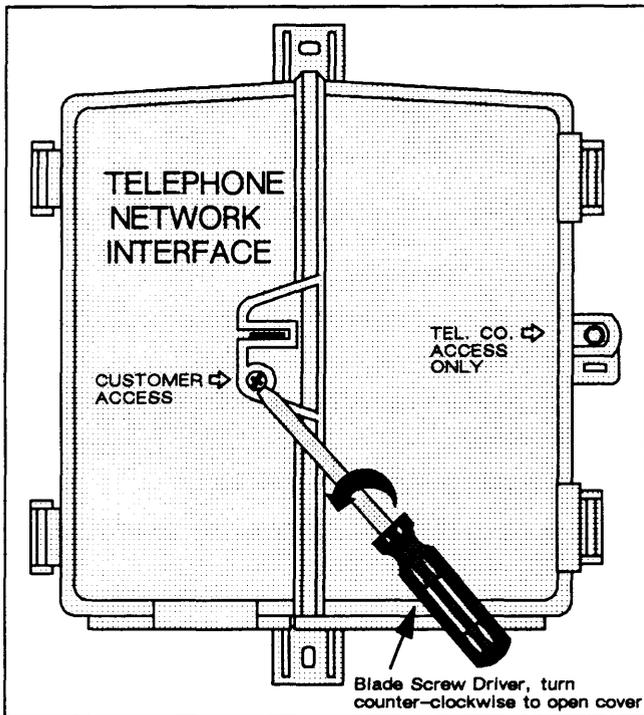
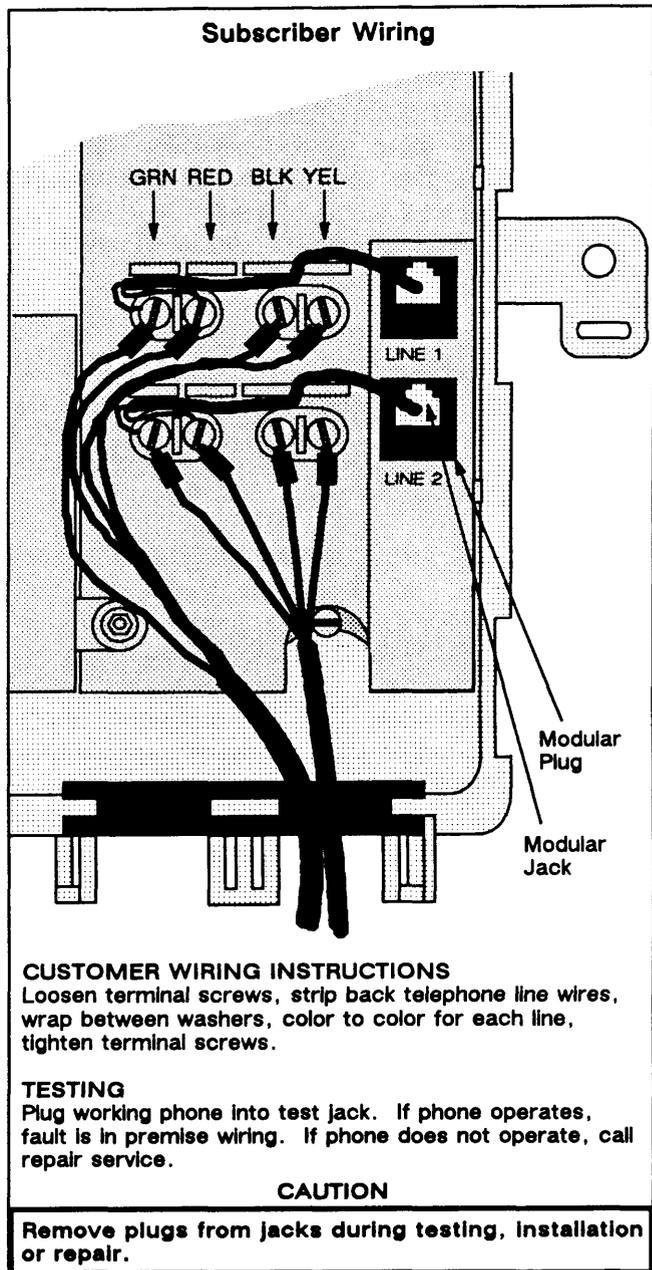

Figure 5 - Opening Customer Access Cover
Figure 6 - Customer Wiring Instructions
- (2) Open the CUSTOMER ACCESS cover (See Figure 5 illustration).
- (3) Disconnect the modular plugs from LINE 1 and LINE 2 modular jacks.
- (4) Carefully follow the CUSTOMER WIRING INSTRUCTIONS as shown in Figure 6.